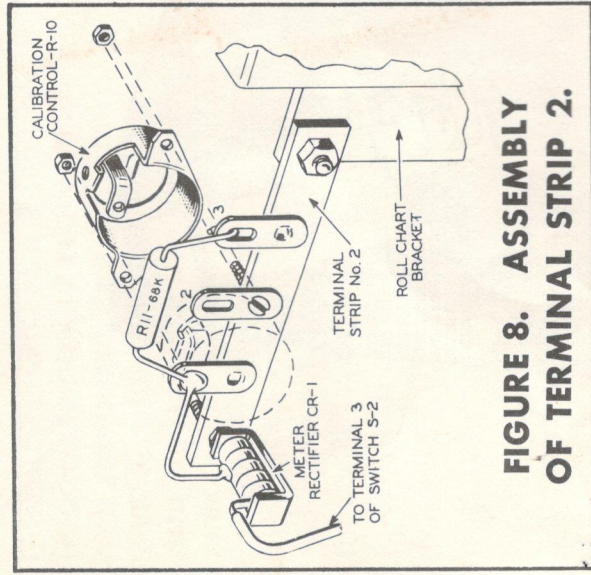

FIGURE 8. ASSEMBLY OF TERMINAL STRIP 2.
See Figure 8.
- () Mount R-10, the 1200 ohm variable calibration control on terminal strip 2, the three-lug terminal strip. This is the terminal strip which does not have any mounting lugs. Use one of the very small machine screws and hex nuts to mount R-10. Pass the small screw through the hole of the center terminal of terminal strip 2 and through the right mounting tab of R-10, as shown in Figure 8.
() Bend the connection lug of R-10 so that it fits against terminal 1 of terminal strip 2. Solder this connection. See Figure 8 for the correct positioning of this connection lug.